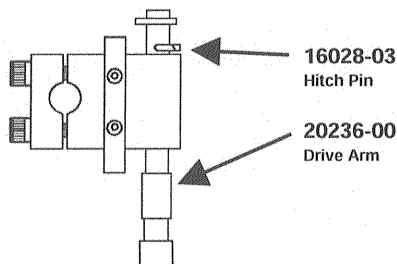

Fig. 2
1. Detach Catalyst Slave Pump from Material Pump. Remove Pin, P/N 16028-03, and retract Slave Pump Drive Pin, P/N 20236-00. Re-insert Pin, P/N 16028-03 into hole on back side of Drive Pin to prevent drive pin from engaging Pump during priming procedures. (see Fig. 2)